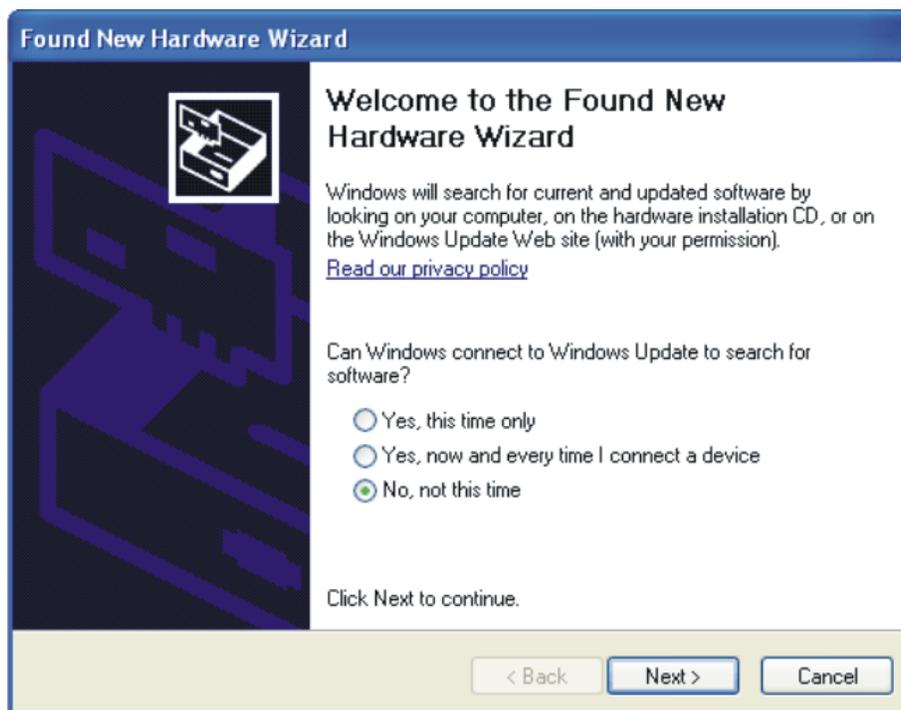

Figure 12. NI-VISA Driver Installation
2. The computer should recognize new hardware and begin installing the drivers for the hardware. Figure 12 through Figure 15 are provided for reference to show the installation steps.
- For the first screen, Figure 12, it is not necessary to search for the software; it has already been installed to your PC.